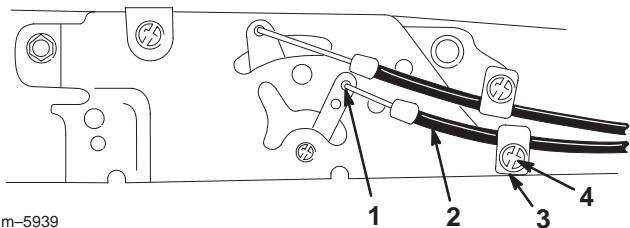

Figure 8
3. Attach the inner wire of the throttle cable to the top hole in the throttle control lever as shown in Figure 8.
4. Loosen the cable clamp and insert the cable behind it (Fig. 8).